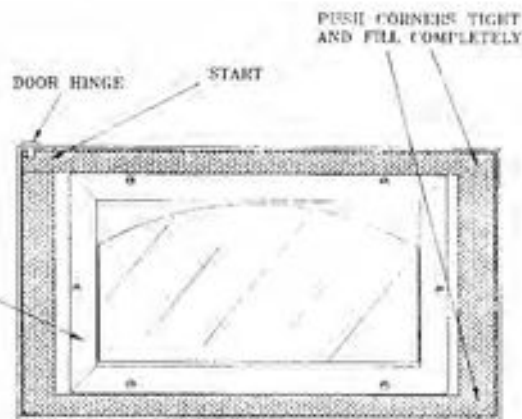

Figure 19
3. Apply the rope seal material to the gasket surface, beginning at the upper corner where the door hinges, and work the seal around the door. To form a narrower gasket width, simply stretch the rope as you apply it. By compressing the rope, a wider gasket can be produced. The gasket should be formed as wide as possible for best airtight sealing and to assure small misalignments between the door jamb and gasket material are compensated for. As the rope seal is applied around each corner, push the material into the corner to achieve a full seal (see Figure 19). Each corner should be completely filled so that no gaps exist which will permit air leakage. Once you reach the beginning point, cut and remove the remaining rope. The end of the rope should be flush against the starting piece (see Figure 19). Do not overlap the ends or air leakage will result.